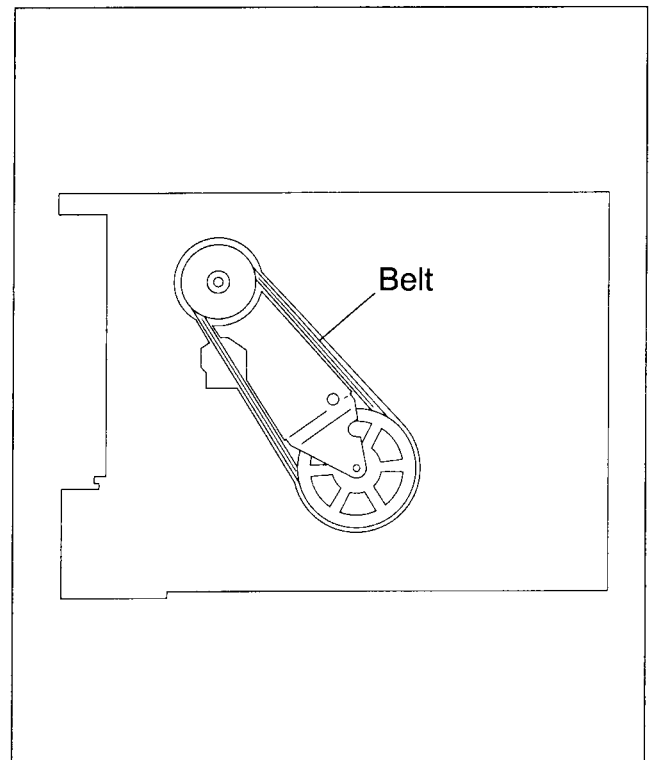

Fig.2-5-10
- (1) Take out 1 slit washer,then remove the lever assembly.
- (2) Disengage the belt(capstan motor) from bottom of mechanism assembly first as indicated in Fig.2-5-10.